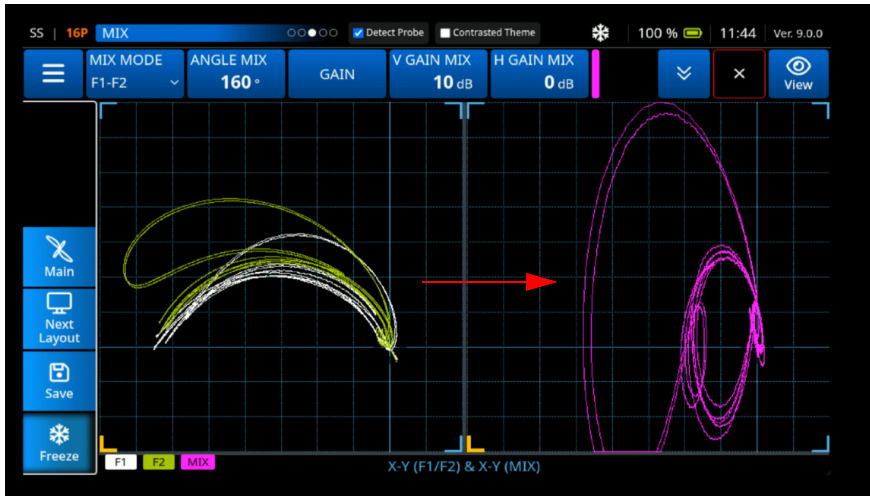

Figure 3-100 Adjust the Angle Mix Settings
- Using the **Angle Mix** setting and the knob, adjust the **Notch A** signal to reach **7 Vertical** divisions (See Figure 3-100 on page 116).